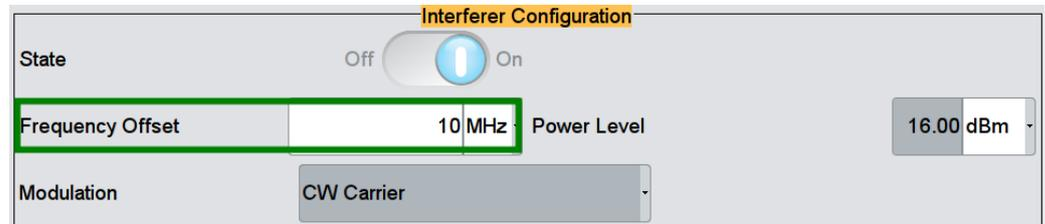

Fig. 3-40: Set frequency offset
5. Set **Frequency offset** of the interfering signal from the wanted signal such that the center frequency of the interfering signal is within the operating band. (Fig. 3-40)
6. Modulation of the interfering signal is set as CW Carrier and **Power level** is set automatically according to standard. (Fig. 3-40)